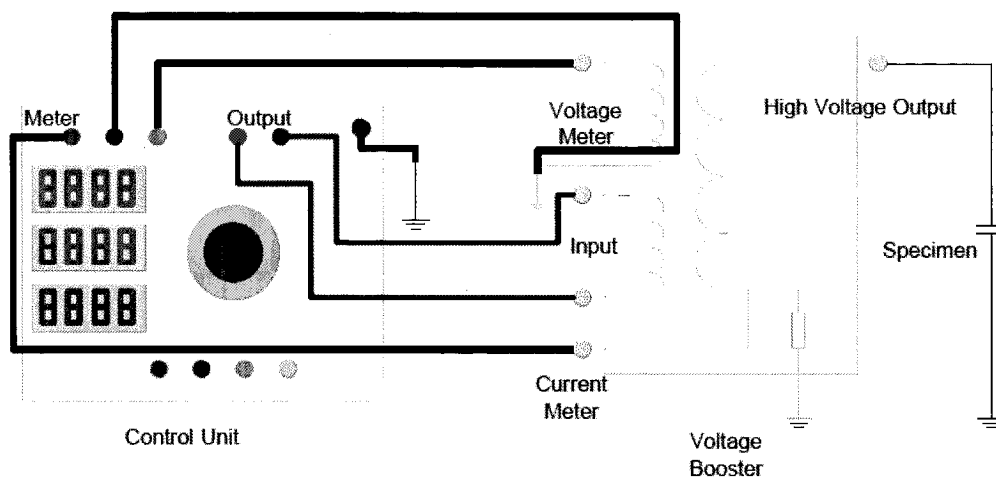

Figure 7 Typical Test Connection of HIPOT tester
The output voltage of HIPOT tester is very high. Please be sure that there is enough insulation distance between the high voltage circuit and operator. The separated units of HIPOT tester can make the operator far from the high voltage side when testing. Please be sure that all indications are in work condition when testing. Figure 7 is the typical test connection for HIPOT Tester.
3) Please make connection for tester and specimen object according to figure 7